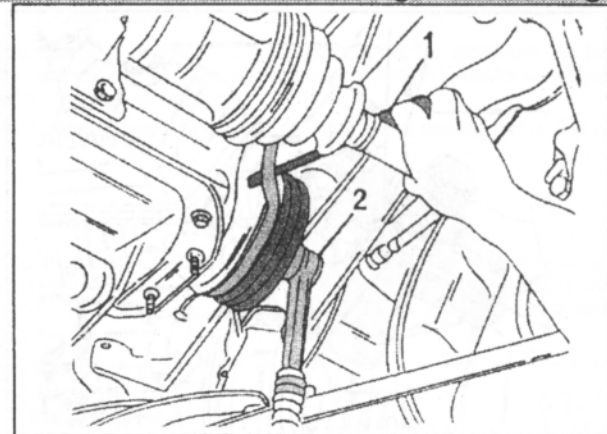

Fig. 1.83. — Insert a screwdriver (1) as shown and rotate the crankshaft with a socket (2) until the water pump drive belt is free.
- Jack up the front end of the vehicle and place on chassis stands, to gain access to the water pump drive belt. First remove the alternator drive belt to have this one out of the way. To remove the drive belt, use a screwdriver and insert it underneath the drive belt as shown in Fig. 1.83. Apply a 35 mm socket to the crankshaft pulley nut and slowly rotate the crankshaft until the belt slips off the lower pulley (towards the inside). Take care not to damage the belt. Take off the belt after it is free.